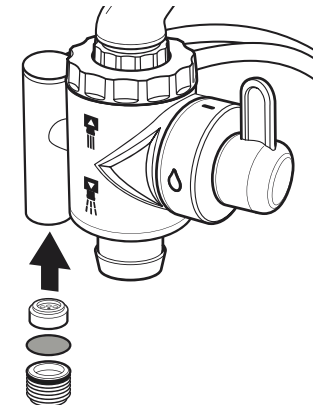

Figure 3.29 – Reinstalling the filtered water nozzle to the diverter
5. When flushing is complete, shut off the faucet (see Figure 3.29).